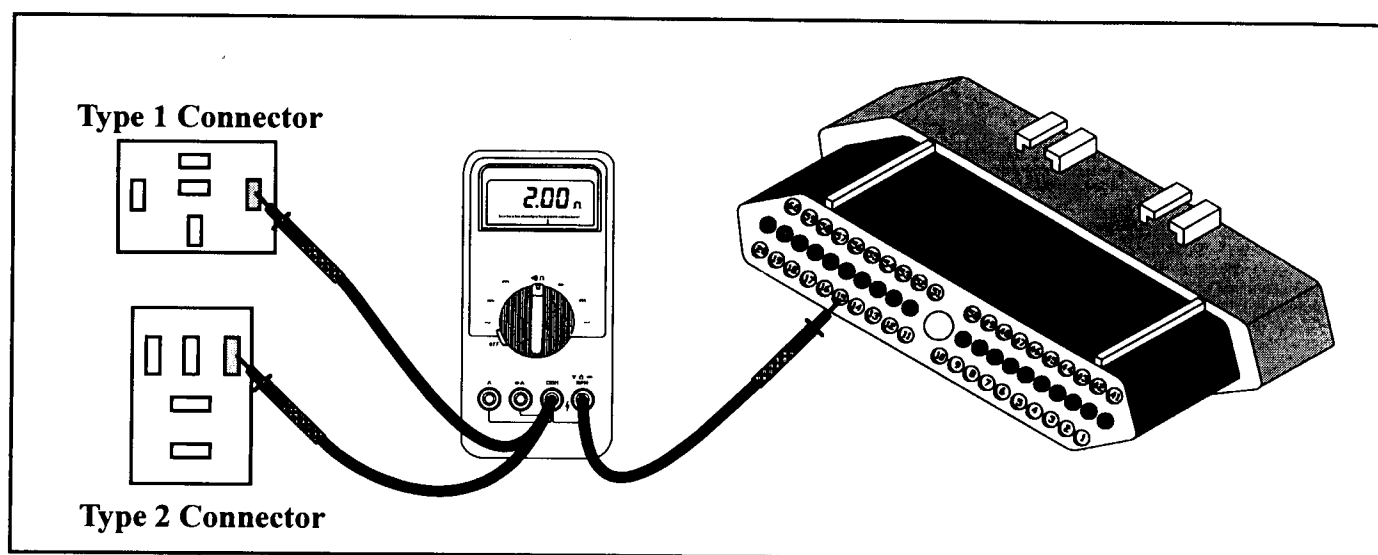

Figure 17
- Check for continuity between the EATX relay connector and terminal 15 in the TCM connector as shown in Figure 17. If an open is seen, repair the break in the wire. If continuity is seen, go to the next step.